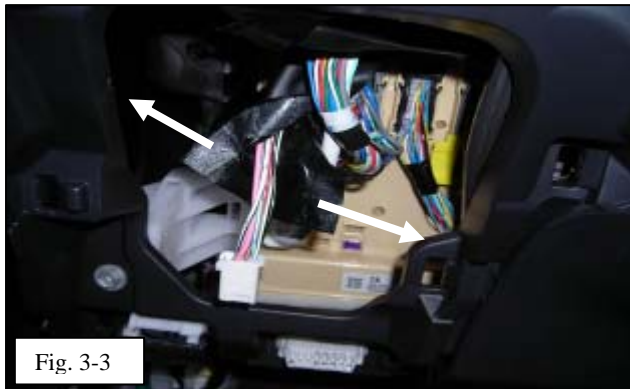

Fig. 3-3
- (c) Peel back part of the protective tape to expose the wires. (Fig. 3-3)